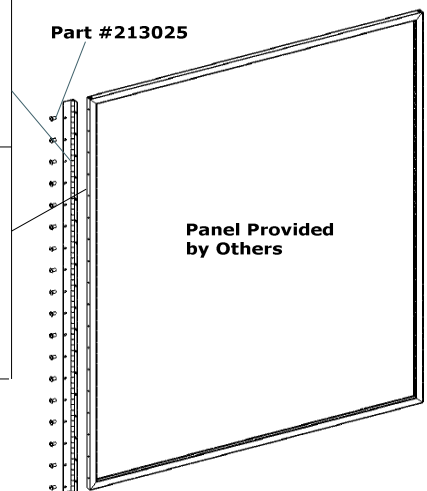

Figure 4
1. For frame assemblies using the piano hinge, fasten the hinge to the pre-drilled frame section using #8 x 5/16" pan head screws (part #213025). Attach the other side of the piano hinge to the door opening with #8 pan head screws (obtain locally). **See Figure 4.**